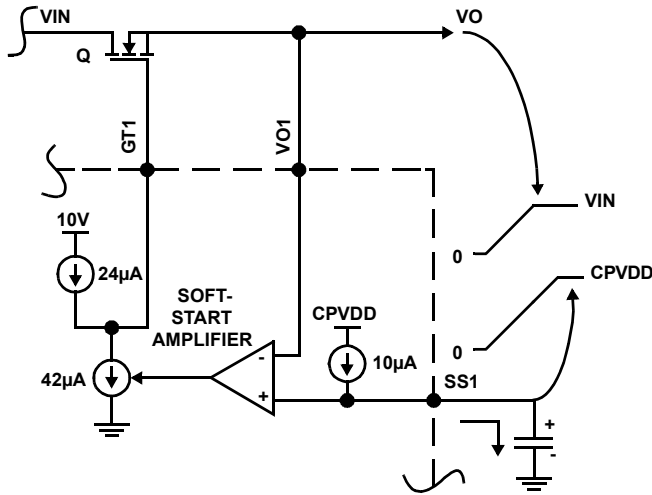

FIGURE 12. SOFT-START OPERATION
The output voltages are monitored through the Vo pins and slew up at a rate determined by the capacitors on the Soft-start (SS) pin, as illustrated in Figure 12. 24µA of gate charge current is available. The soft-start amplifier controls the output voltage by robbing some of the gate charge current thus slowing down the MOSFET enhancement. When the load voltage reaches its set level, as sensed by its respective UV pin through an external resistor divider, the Power Good (PG) output goes active.
I_{INRUSH} is the sum of the dc steady-state load current and the load capacitance charging current. If the dc steady-state load remains disabled until after the soft-start period expires (\overline{PGX} could be used as a load enable signal, for example), then only the capacitor charging current should be used as I_{INRUSH} . The C_{SS} value should always be more than (1/2.4) of that of C_{ISS} of the MOSFET to ensure proper soft-start operation. This is because the C_{ISS} is charged from 24 μ A current source whereas the C_{SS} gets charged from a 10 μ A current source (please refer to Figure 12). In order to make sure both V_{SS} and V_O track during the soft-start, this condition is necessary.